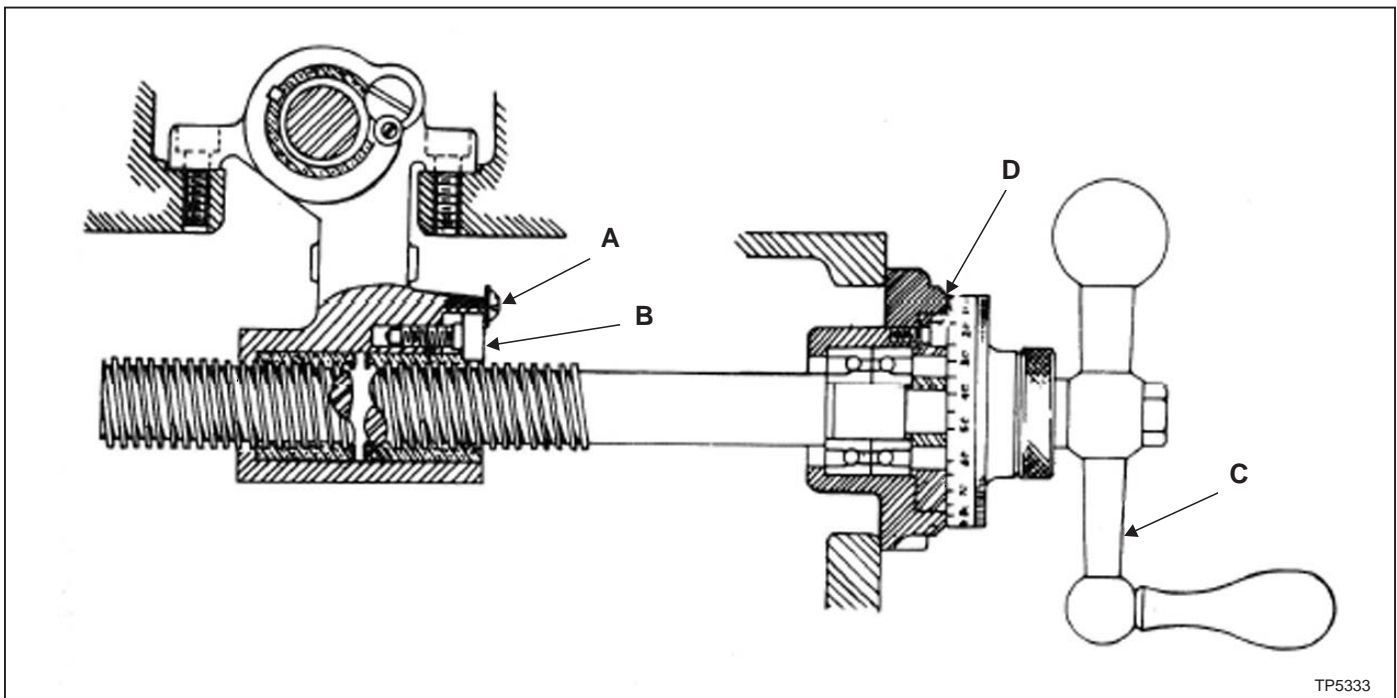

Figure 3.14 - Cross Screw Assembly
2. Remove four socket head cap screws securing bracket "D", Figure 3.14, to knee.